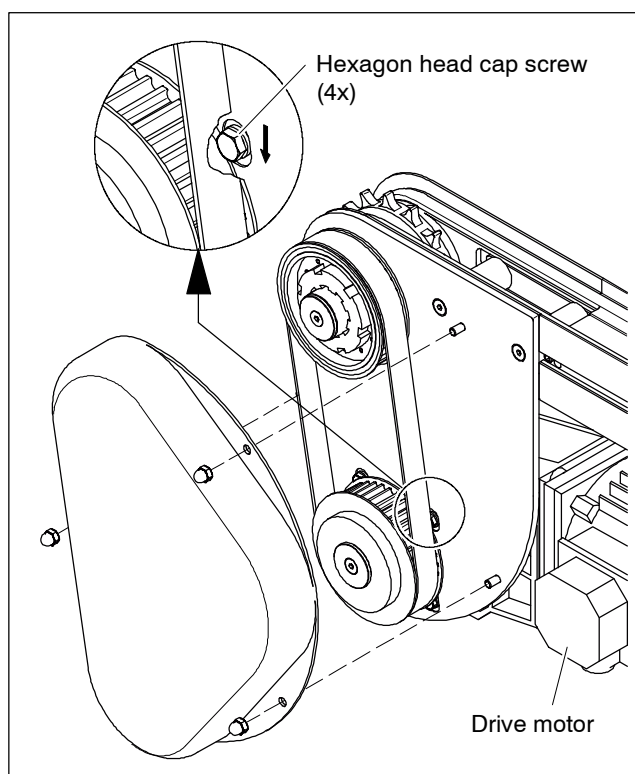

Fig. 13: Moving drive motor
- Undo hexagon head cap screws (4x), see Fig. 13.